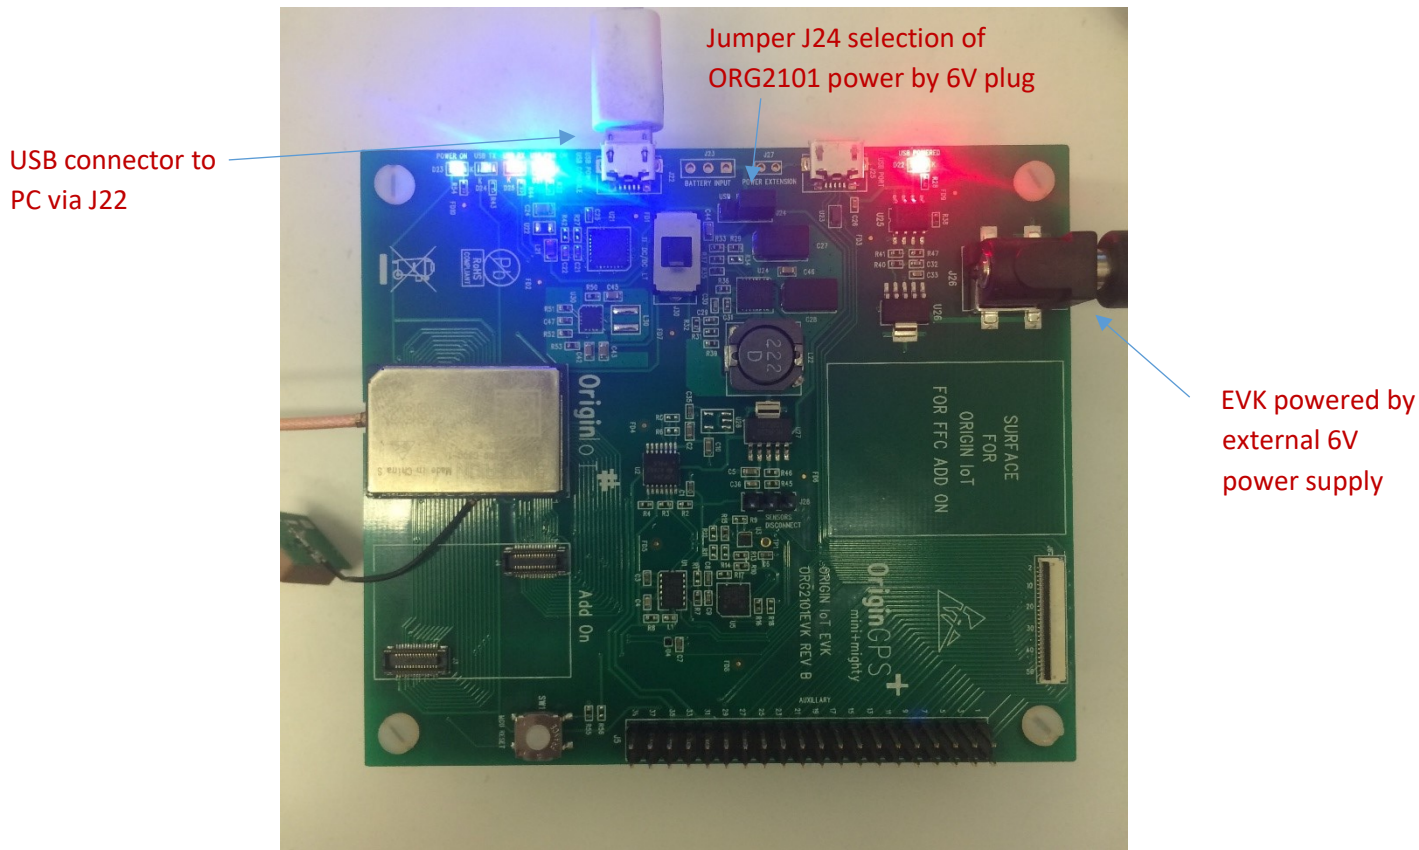

Figure 3 – powering up EVK and ORG2101
5. Connect USB Power/Console of the EVK to PC via micro USB cable (J22). See figure 3.
6. Supply power to EVK - Connect the power adapter to the EVK (J26). See figure 3.
8. Supply power to OriginIoT via DC/DC circuit by placing jumper J24. See figure 3.